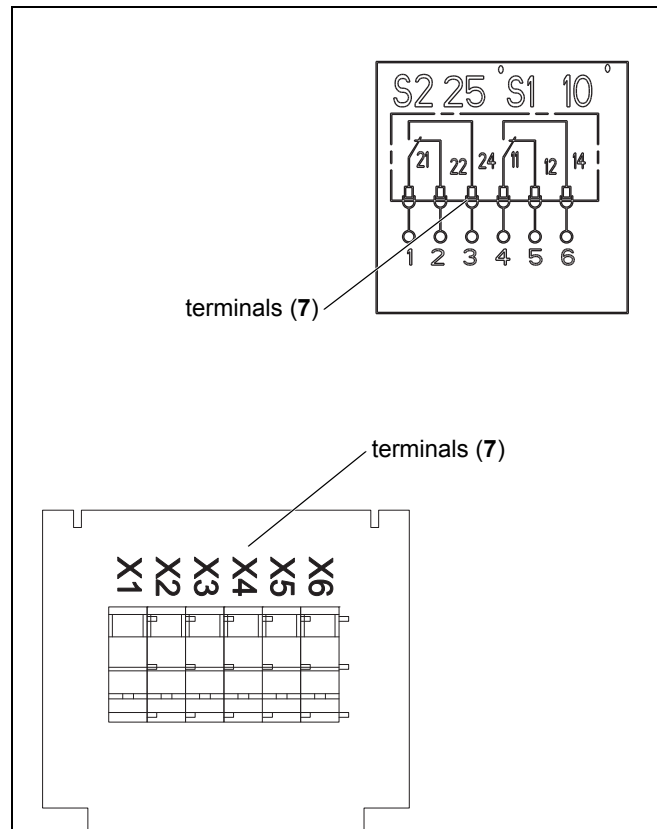
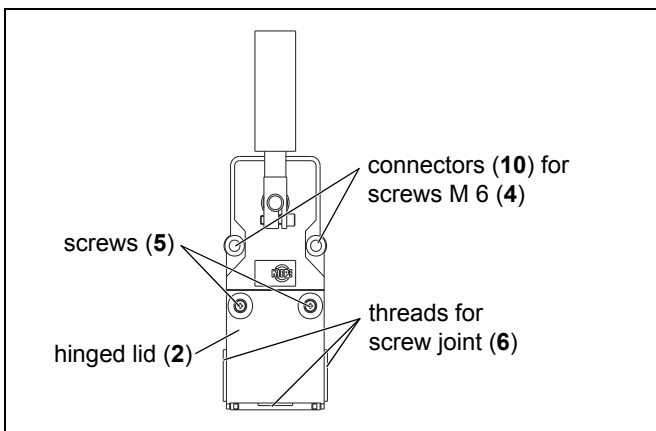

Fig. 5-6: Configuration of the terminals
Fig. 5-8: Removing misalignment switch
6. Connect the connection cable to the terminals (7) according to the connection diagram (see Fig. 5-6).
2. Open the hinged lid (2) by loosening both screws (5) (see Fig. 5-8).
3. Loosen the screw joint (6).
4. Loosen all electrical connections (see Fig. 5-6) and pull the connection cable out of the misalignment switch (see Fig. 5-8).
5. Loosen both screws M 6 (4) and remove the misalignment switch (see Fig. 5-8).
3. Remove seal (13) from the hinged lid (2). When removing the seal remnant, ensure that the housing (1) is not damaged.
4. Stick the new seal (13) into the hinged lid (2).